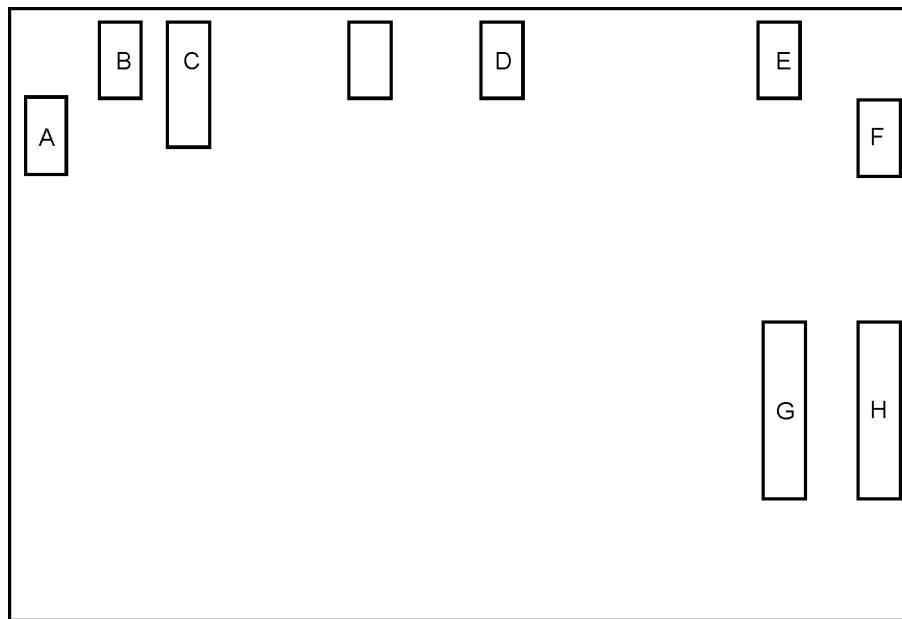

Figure 5-49: A721 Electrical Connections
- a. There are seven cable attachments (see Figure 5-49) labeled A-G which connect to the A721. Disconnect these cables.
2. Insert A721 (see Figure 5-49). Place the board with the plugs labeled G and H on the bottom right, nearer the back wall.
- a. There are eight cable attachments (Figure 5-49) labeled A-G which connect to the A721. Connect these cables.